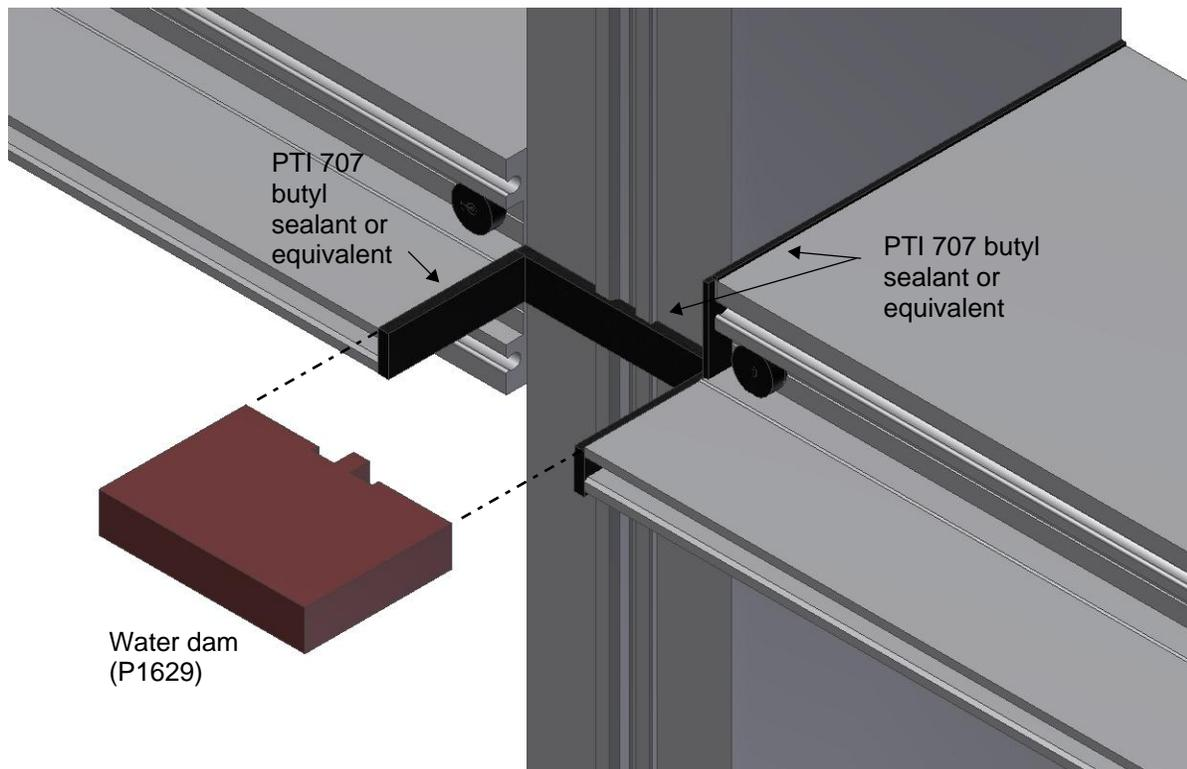

Figure 14: After applying sealant to the gap between the horizontal and vertical, insert a water dam into the gap.
- Wherever a horizontal meets an SSG vertical, apply a bead of butyl sealant across the vertical member, as shown in Figure 14.